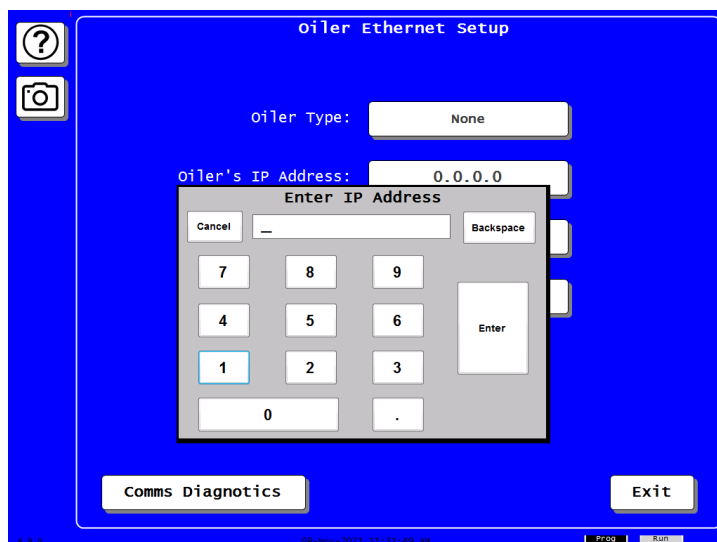

Figure 10. Oiler Ethernet IP Address Setup Window.
6. Select the “Oiler Type” button and toggle it so that it displays “Unist Smartflow”. Next, Select the “Oiler’s IP Address” button and enter in the static IP address assigned to the Unist controller in the IP address entry window (see Figure 10).